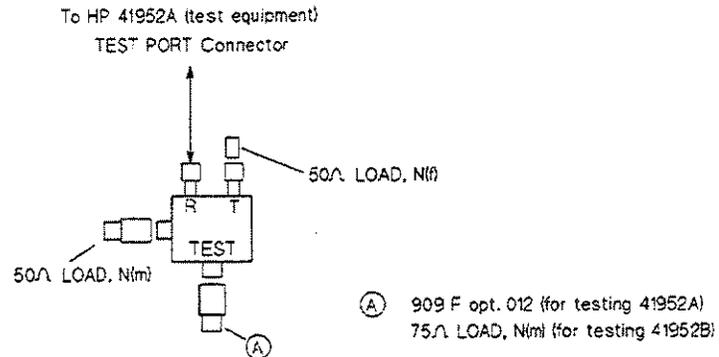

Figure 4-4. INCIDENT connector Port Match Test Setup
- b. Connect the HP 85032B's N(f) LOAD standard to the REFLECTED (T) connector of the HP 41952A/B (under test).
- c. Connect the HP 85032B's N(m) LOAD standard to the RF INPUT connector of the HP 41952A/B (under test), as shown in Figure 4-4.
- d. Connect the INCIDENT (R) connector of the HP 41952A/B (under test) to the TEST PORT connector of the HP 41952A (test equipment).